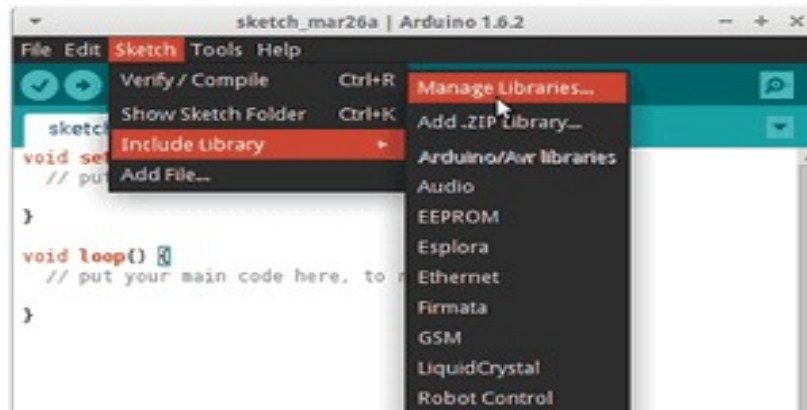
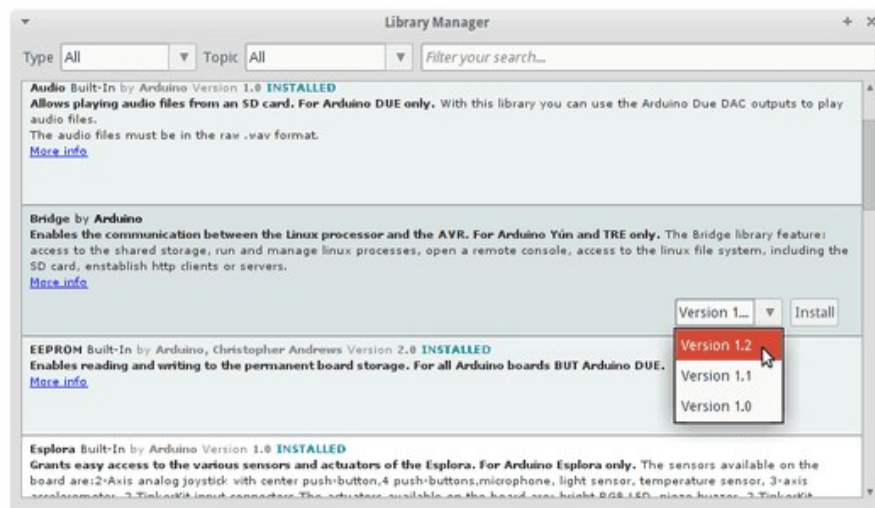

Fig.24. Library Installation
Fig.25. Library Manager (for searching and installing particular library)
- **Compilation Errors:** Ensure all the required libraries are installed. Go to **Sketch > Include Library > Manage Libraries** and install any missing libraries as shown in Fig. 24 and Fig. 25.